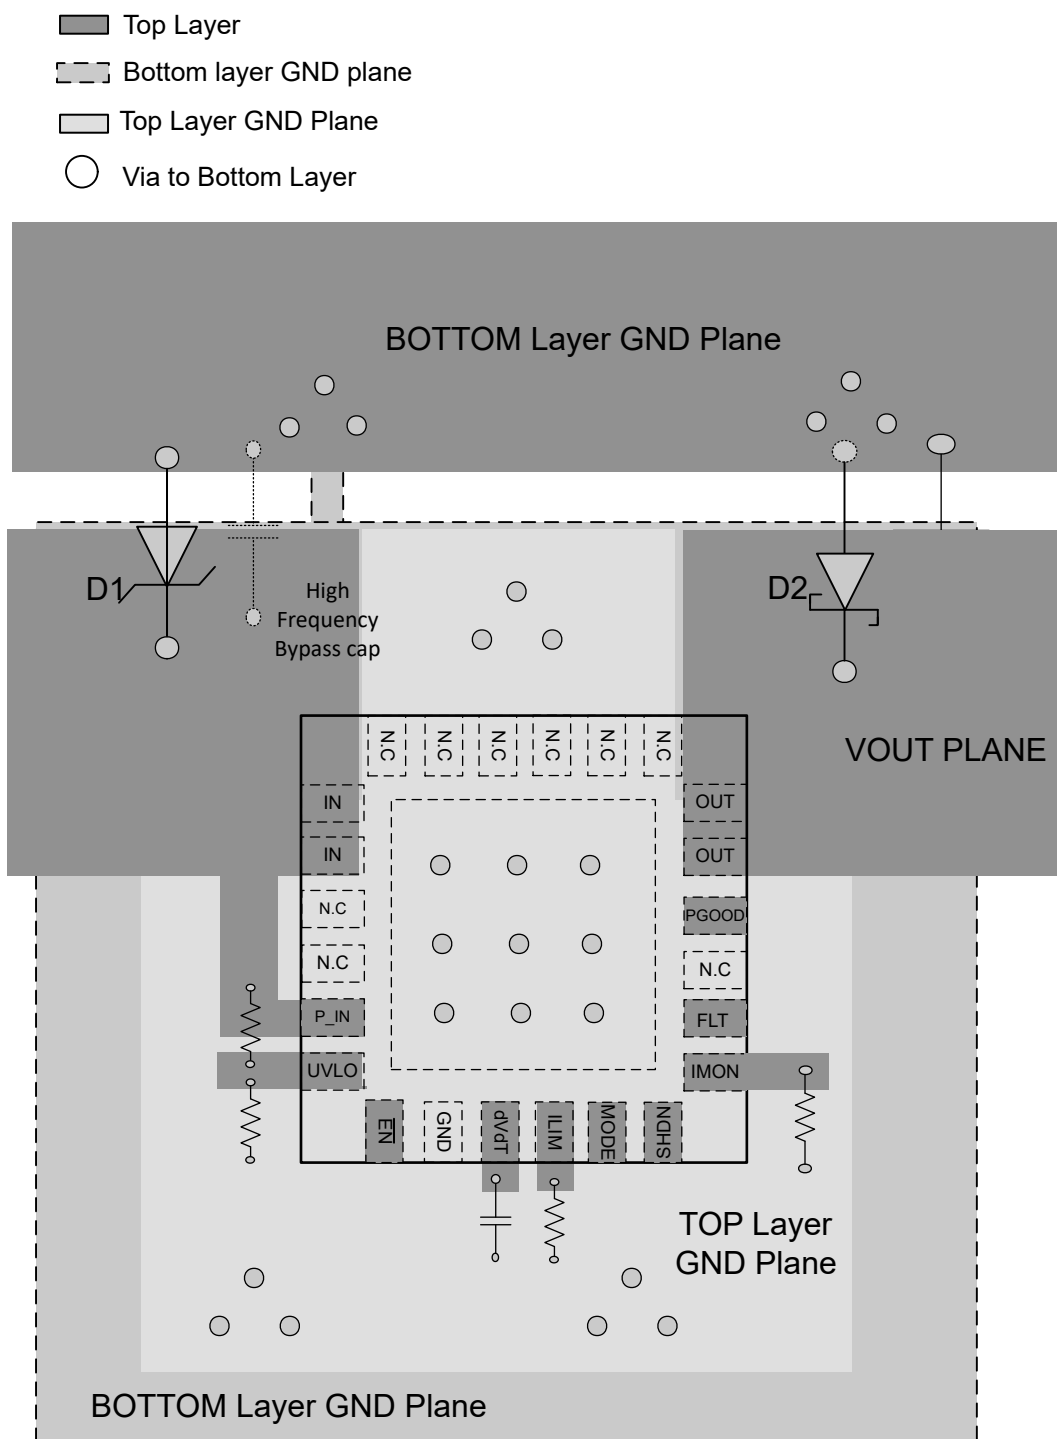
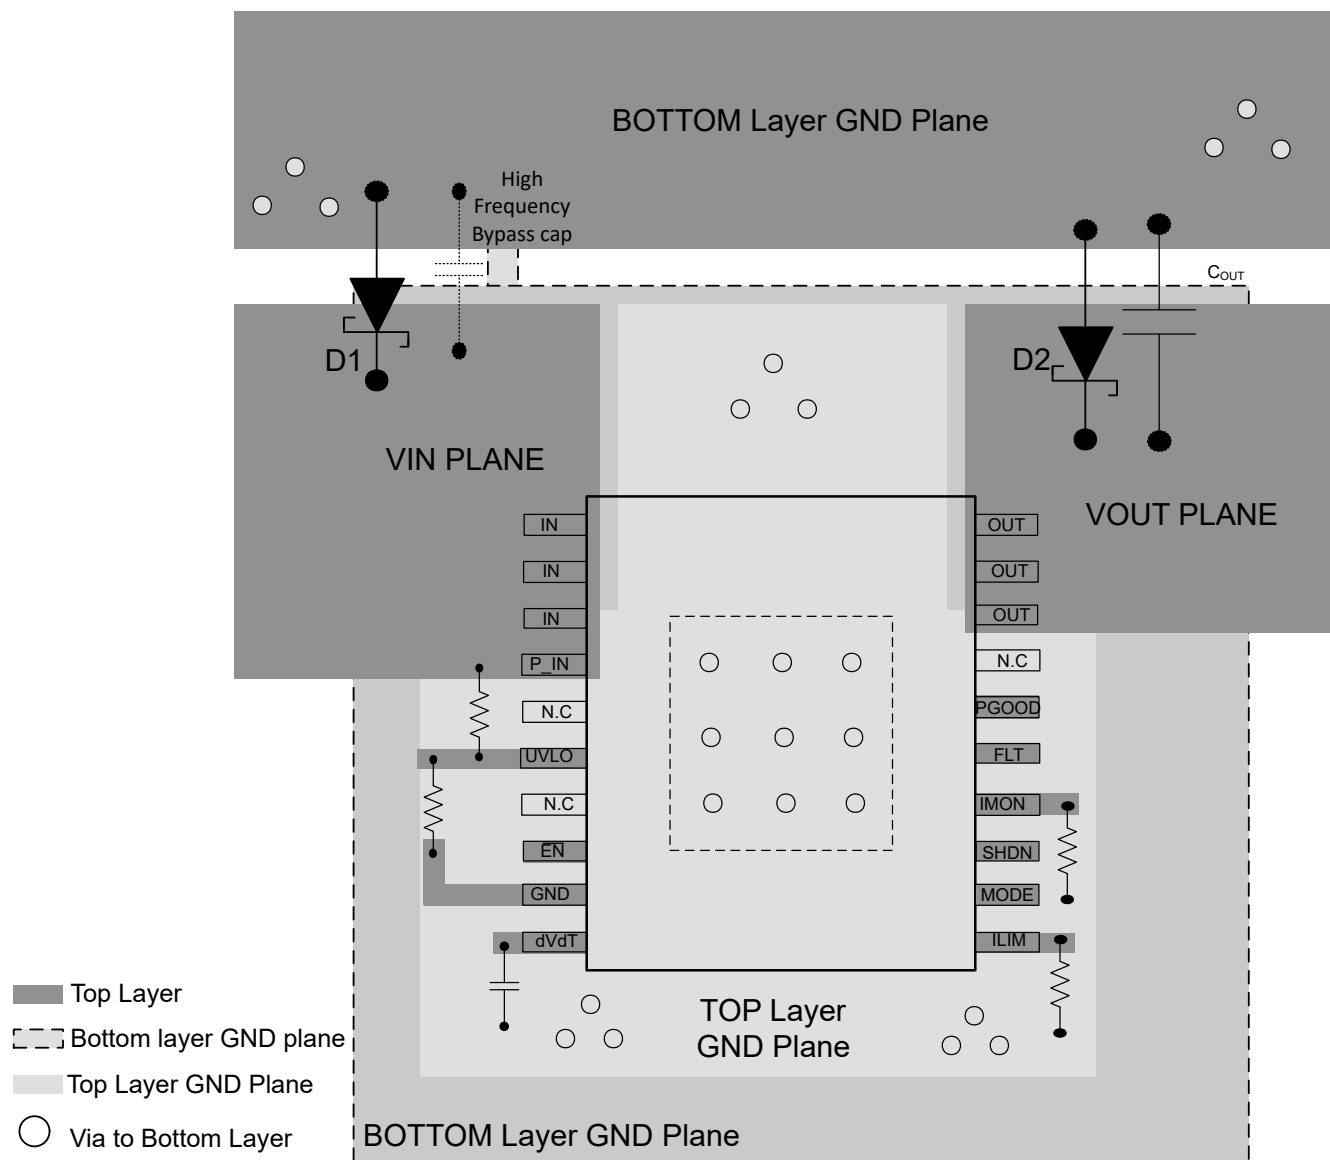

Figure 11-1. PCB Layout Example With QFN Package With a 2-Layer PCB
Figure 11-2. Typical PCB Layout Example With HTSSOP Package With a 2-Layer PCB
- High current carrying power path connections must be as short as possible and must be sized to carry at least twice the full-load current. See Figure 11-1 and Figure 11-2 for a typical PCB layout example.